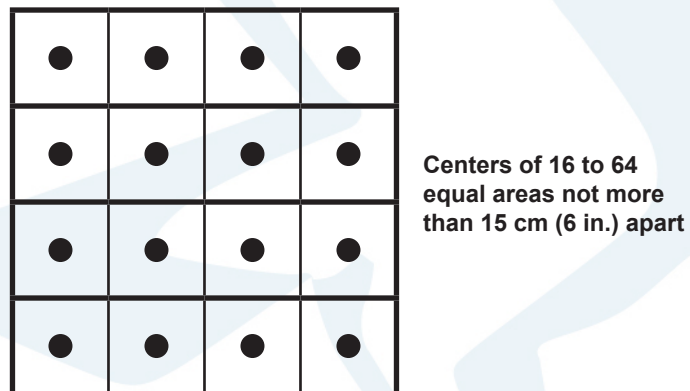

Figure 17 Locations to Take Air Velocity Readings for a Rectangular Duct
9. If the duct is rectangular, take air velocity readings at multiple locations in both the horizontal and vertical directions as shown in Figure 17 and record each reading.